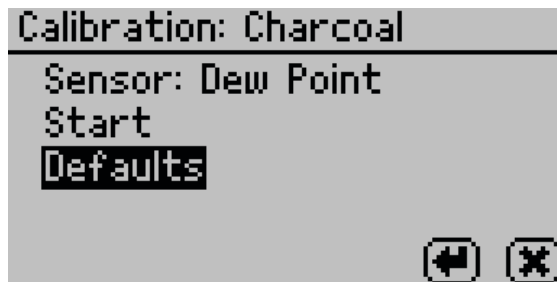

Figure 24 Default options
- Select Defaults (Figure 24).